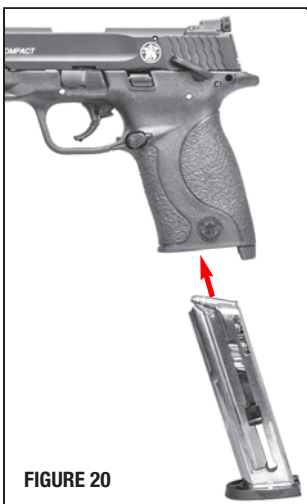

FIGURE 20
- Inspect your pistol as previously described in the “Inspecting Your Pistol” section. Hold the pistol in one hand with the muzzle pointing in a safe direction and with your finger off the trigger and outside the trigger guard. Insert the loaded magazine into the magazine well (FIGURE 20) of the pistol until it is locked in place.